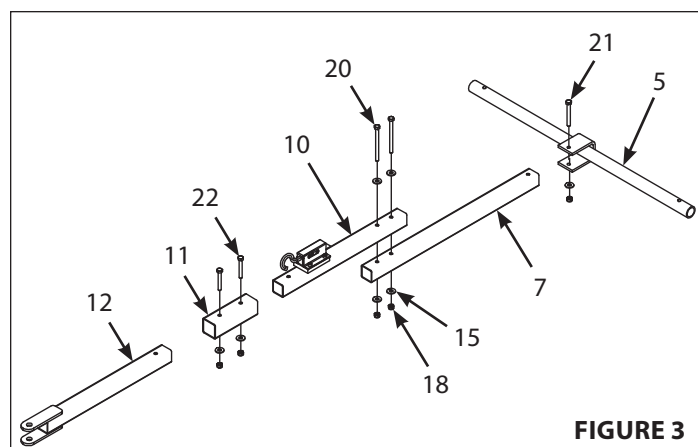

FIGURE 3
4. Insert rear tongue tube (7) into the "u-bracket" on the axle tube (5) and secure with one M8x70mm bolt (21), M8 steel washer (15) and M8 locknut (18). **SEE FIGURE 3**
5. Secure the latch tube assembly (10) to the top of the rear tongue tube (7) with two M8x100mm bolts (20), M8 steel washers (15) and M8 locknuts (18). **SEE FIGURE 3**
6. Insert the latch tube assembly (10) and the front tongue tube (12) into the connector pocket (11) and secure with two M8x60mm bolts (22), M8 steel washers (15) and M8 locknuts (18). **SEE FIGURE 3**